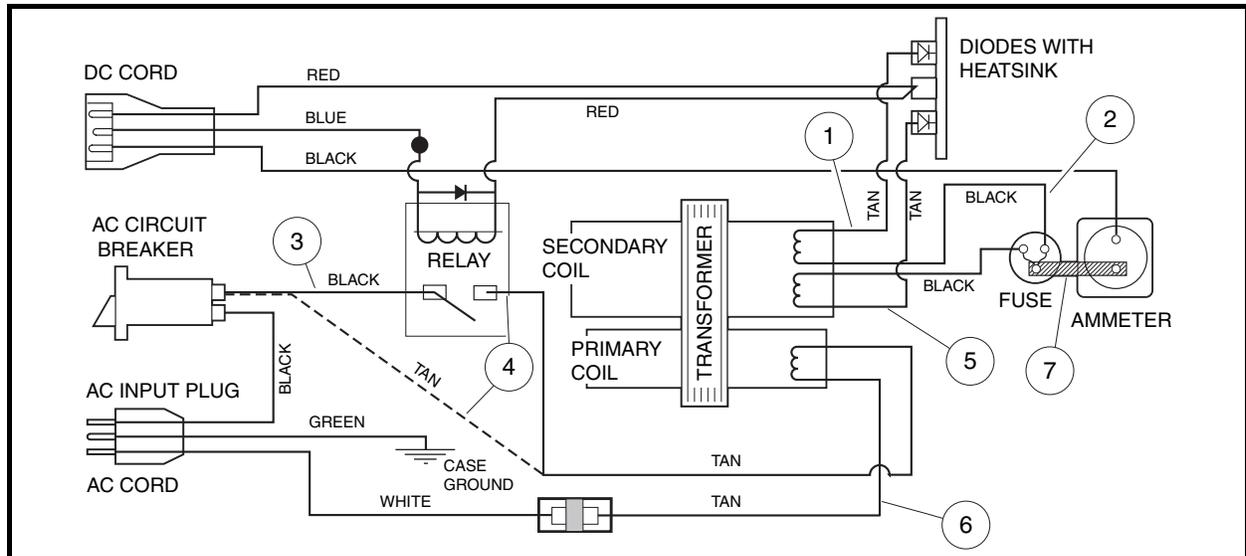

Figure 3-17 Transformer Test Wiring Diagram
- 5.2.1. To bypass the relay, remove the black wire (3) from the AC circuit breaker and disconnect the tan wire (4) from the relay. Connect the tan wire (4) to the AC circuit breaker (**Figure 3-17, Page 3-19**).
6. If the circuit is not complete, check the wiring of the AC cord, transformer primary coil wires, and internal AC circuit breaker (**Figure 3-17, Page 3-19**).
3. Disconnect transformer secondary coil wires (1 and 5) from the heatsink (**Figure 3-17, Page 3-19**).
- 4.1. To bypass the relay, remove the black wire (3) from the AC circuit breaker and disconnect the tan wire (4) from the relay. Connect the tan wire (4) to the AC circuit breaker (**Figure 3-17, Page 3-19**). See following **DANGER**.
9. Connect the AC cord to the wall outlet and monitor the multimeter for the secondary coil voltage. If measured voltage is approximately 85 volts AC or lower for the secondary coil, the transformer is shorted internally and must be replaced (**Figure 3-17, Page 3-19**).
The PowerDrive battery charger transformer has two sets of coils: a primary coil and a secondary coil **(Figure 3-17, Page 3-19)**.
3. Disconnect terminals from transformer (tan) primary coil transformer wires (4 and 6) **(Figure 3-17, Page 3-19)**.
3. Remove the transformer (tan) secondary coil wire (1) from the upper terminal of the heatsink **(Figure 3-17, Page 3-19)**.
4. Remove the other transformer (tan) secondary coil wire (5) from the bottom terminal of the heatsink and place the continuity test clip on the ammeter buss bar (7) **(Figure 3-17, Page 3-19)**. Test for continuity between the buss bar and each of the secondary coil wires (tan). The tester should indicate continuity between the buss bar and both of the secondary coil wires. If tester does not indicate continuity on both secondary coil wires, replace transformer. Ensure that the fuse is intact and not blown.
3. Remove black (3) and tan (4) wires from contact terminals of the relay (**Figure 3-17, Page 3-19**). Place continuity test probes on contact terminals of the relay. The tester should indicate no continuity. If tester indicates continuity, the relay contacts have failed closed and the relay must be replaced.